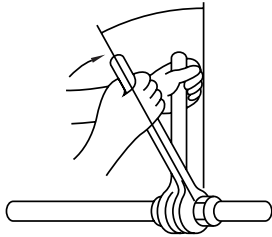

Fig. 5-10
- Apply a thin coat of refrigeration oil on the seat surface of pipe. (Fig. 5-10)